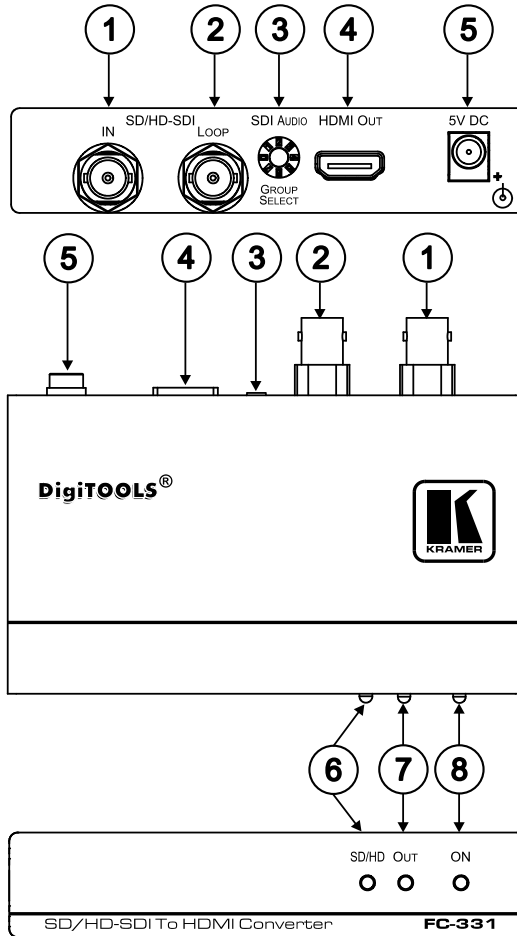

Figure 1: FC-331 SD/HD-SDI to HDMI Converter
*Figure 1 and Table 1 define the **FC-331 SD/HD-SDI to HDMI Converter**:*